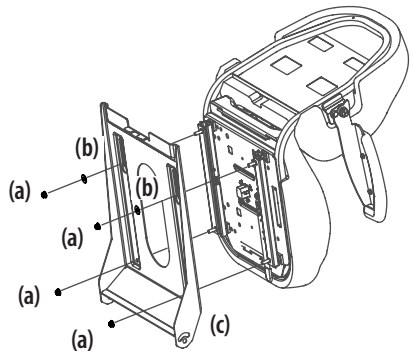

Figure 4
2. Install the seat onto the seat pan (c) using hardware provided. See Figure 4.
- a. Use flange lock nuts (a) and flat washers (b). See Figure 4.